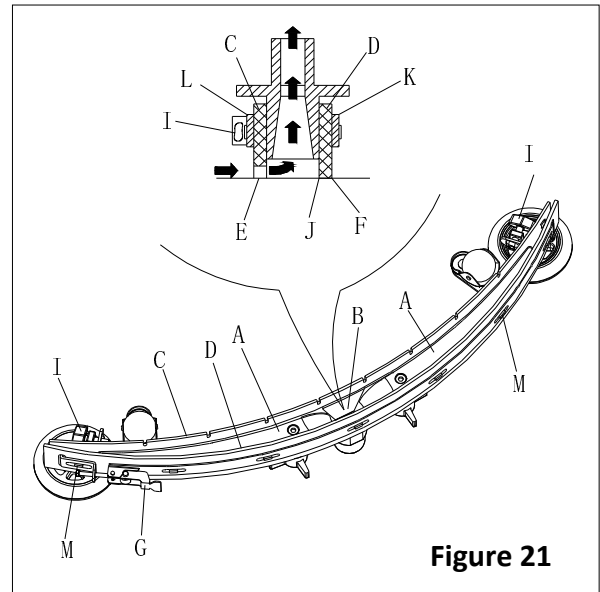
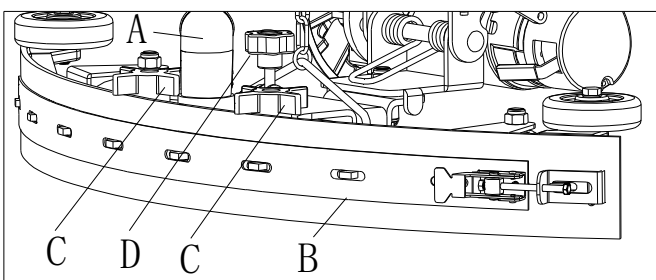

Figure 21
Figure 22
2. Check that the edges (E, Figure 21) of the front blade (C) and the edges (F) of the rear blade (D) lay down on the same level, along their length; if necessary adjust their height according to the following procedure:
- Remove the tie rod (G), disengage the fasteners (M) and adjust the rear blade (D), then engage the fasteners (M) and install the tie rod (G).
- Loosen the knobs (I) and adjust the front blade (C), then tighten the knobs.
3. Check the front blade (C) and rear blade (D) for wear, cuts and tears; if necessary replace them according to the following procedure. Check that the front corner (J) of the rear blade (D) is not worn; if necessary overturn the blade to replace the worn corner with an integral one. If the other corners are worn too, replace the blade according to the following procedure:
- Remove the tie rod (G), disengage the fastener (M) and remove the retaining strip (K), then replace/overturn the rear blade (D). Assemble the blade in the reverse order of disassembly.
- Unscrew the knobs (I) and remove the retaining strip (L), then replace front blade (C). Assemble the blade in the reverse order of disassembly. After the blade replacement (or overturning), adjust the height as shown in the previous step.
4. Connect the vacuum hose (A, Figure 22) to the squeegee.
5. Install the squeegee (B) and screw down the knobs (C).
6. If necessary, adjust the squeegee balance adjusting knob (D).